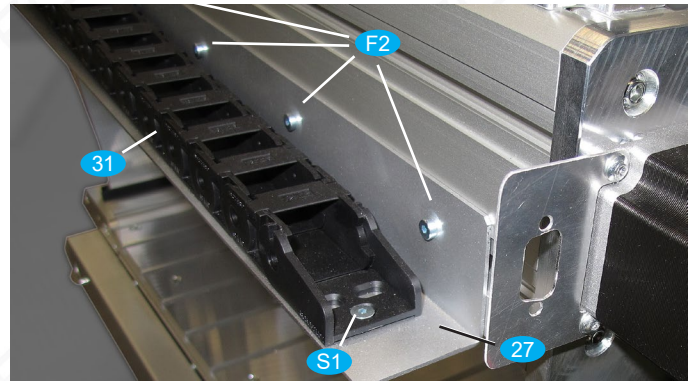

Fig. 35: Mounting the drag chain angle **27** on the back of the guide profile for the X axis
- Attach the drag chain angle **27** to the back of the guide profile **12** using flat-head screws **F2** and hammer nuts **H1**, as shown in Figs. 35 and 36.
- Hang the X drag chain in the connection kit and fasten the free end to the drag chain bracket with countersunk screws **S1**, washers **58**, nuts **59** and the second part of the connection kit, as shown in Fig. 35.